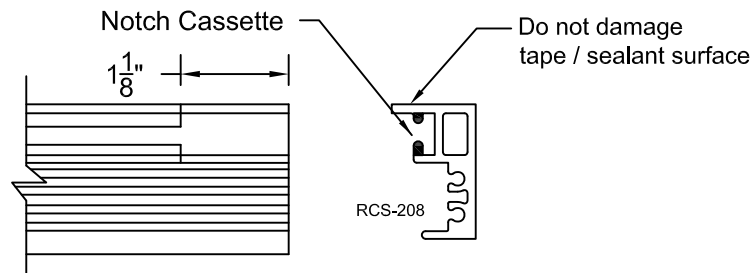

FIGURE 29
- 3.2 Fabricate vertical cassettes with slot milled at top end. Slot will be used to insert cassette clips in field. Care should be taken when notching not to damage surface where tape or structural sealant is to applied. SEE FIGURE 29